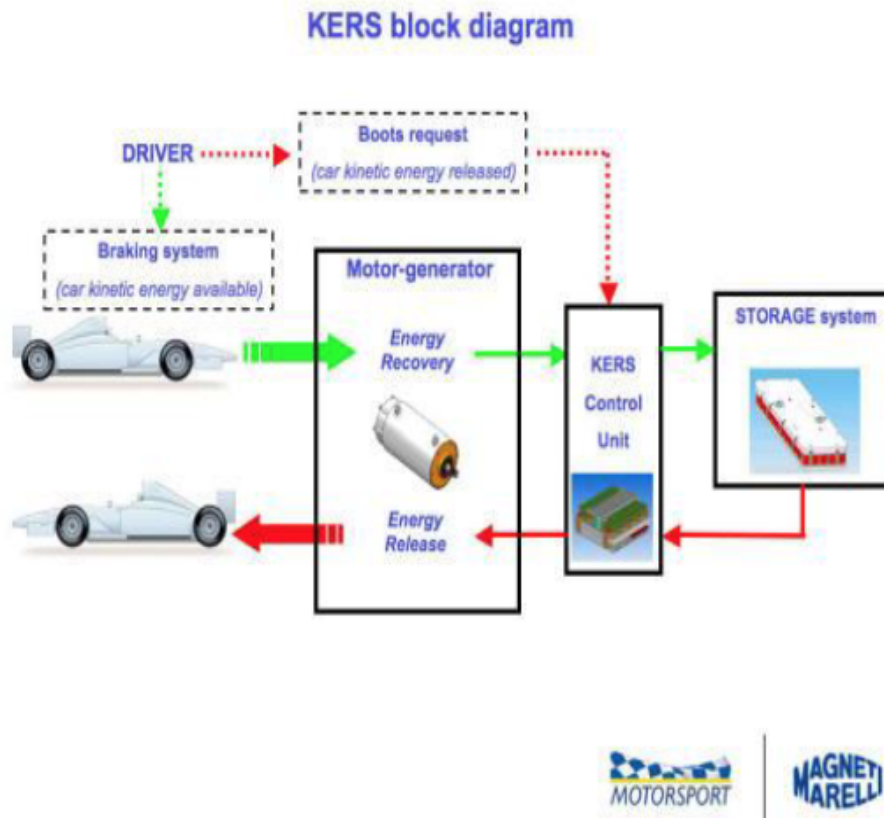

Fig. 1. The flow and conversion of energy in electrical KERS [2].
**Figure 1: Catch and Release Concept a) spring absorbs energy from input motion b) system is latched at a fixed displacement c) system oscillates at its natural frequency**